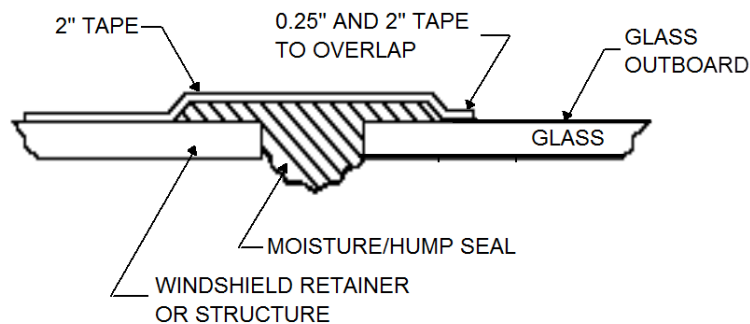

Figure 1 – Tape Over Moisture Seal
- B. ~~To protect moisture seal, Apply 2" tape over moisture seal onto glass 1/4". See Figure 1.~~